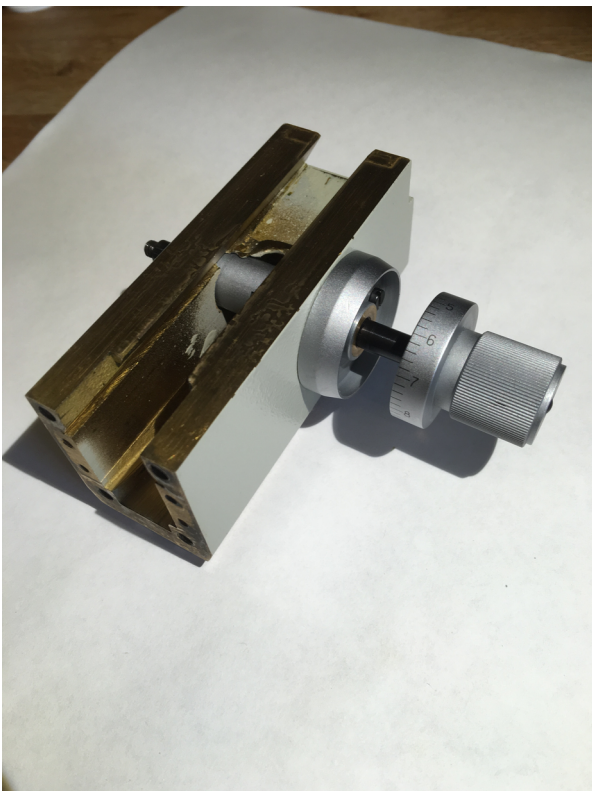

Figure 12
- * Pull fine-focus shaft from focus block. I would suggest tying a wire or string through the hole in that shaft as a reminder which end is which. The shaft is not symmetrical! (Figure 12)